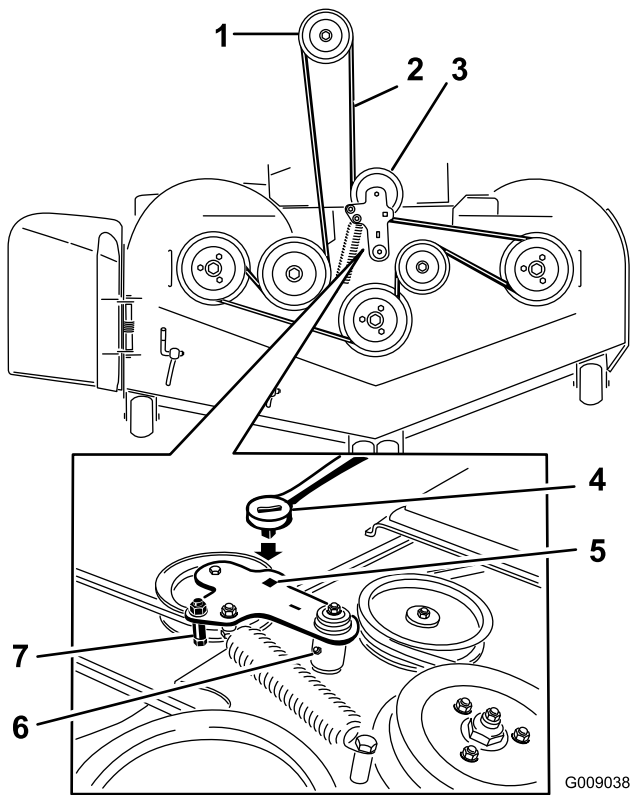

Figure 77
- Use a ratchet in the square hole in the idler arm to remove tension on the idler spring (Figure 77).
- Remove the belt guide on the spring loaded idler arm shown in Figure 77.
- Install the new belt around the mower pulleys and the clutch pulley under the engine (Figure 77).
10. Install the belt guide on the idler arm shown in Figure 77.
11. Using the ratchet in the square hole, install the idler spring (Figure 77).